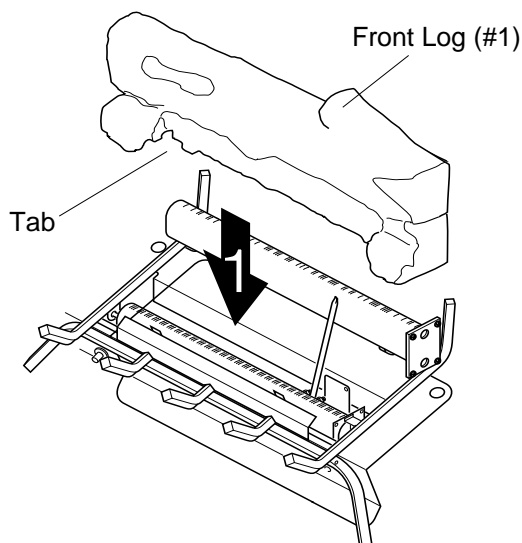

Figure 21 - Installing Front Log
1. Slide front log (#1) into place behind front burner. Make sure tabs at bottom of log are behind front burner (see Figure 21).